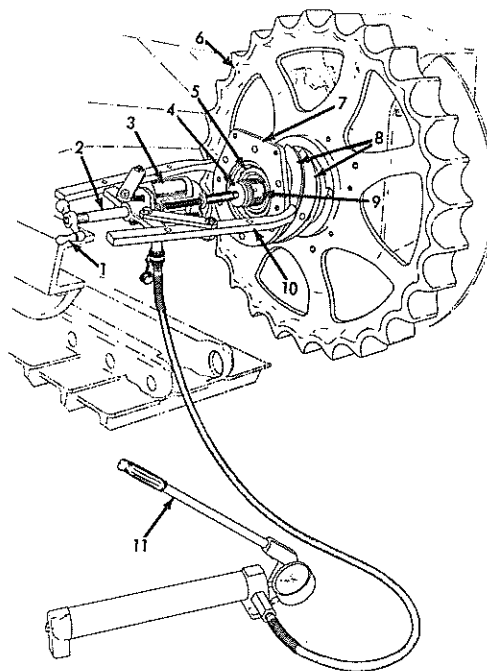

Fig. 3 Removing Sprocket Shaft
6. Use puller tools similar to those in Fig. 3; pull sprocket shaft outboard bearing cage and bearing from sprocket shaft. Use care in